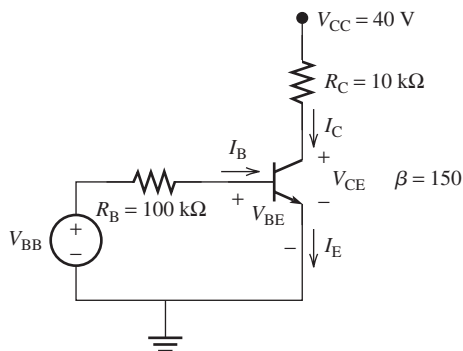

FIGURE P8.38 The circuit for Problem 8.38.
- 8.38 (A) For the circuit shown in Figure P8.38, find V_{BE} , I_B , I_C , and V_{CE} when: